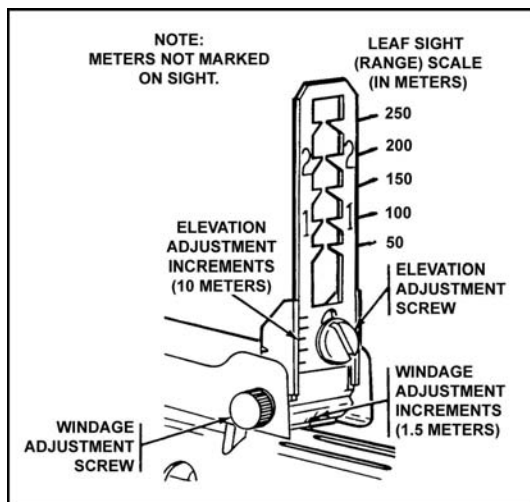

Figure 071-311-2130-4. Leaf sight
9. Adjust the leaf sight if necessary (figure 071-311-2130-4). Use the rim of a used 40-mm cartridge to turn the elevation adjustment screw.